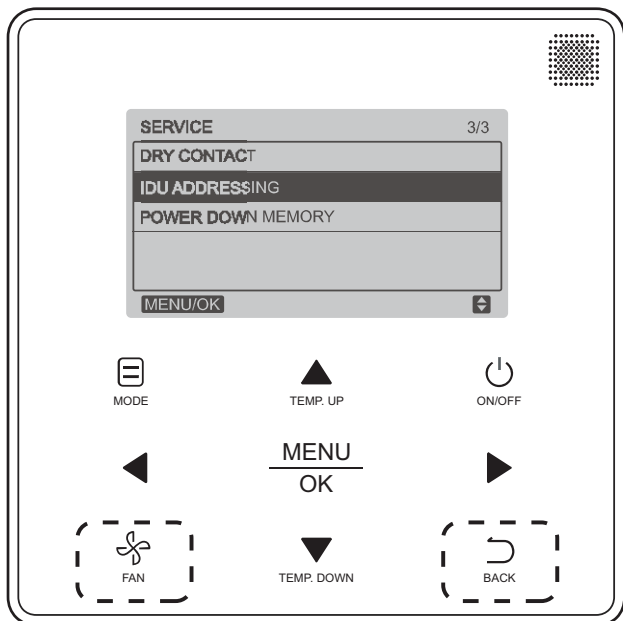

Fig. 48 —Programmable Controller (40VM900003) IDU Addressing Menu
1. Press **FAN** and **BACK** simultaneously for 5 seconds to access the parameter settings as shown in Fig. 48.